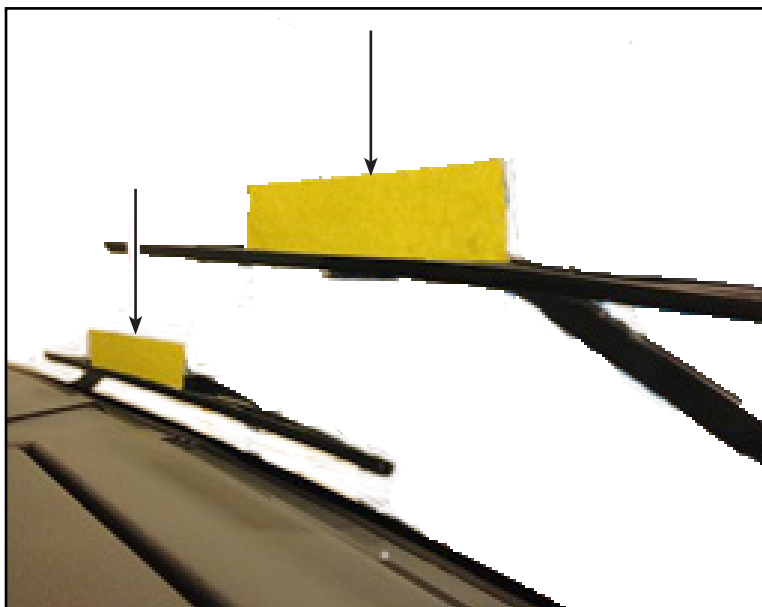

Figure 3 - Put Two Pieces of Tape Inside the Vehicle
- 1.5. Install tape on the inside face of the windshield to mark the wiper blade positions. See Figure 3.
- 1.24. Validate that the wiper blades lines up with the tape put inside the windshield, as seen in Figure 3, step 1.5. The blades should not have a negative angle.
- 1.34. Validate that the wiper blades lines up with the tape put inside the windshield, as seen in Figure 3, step 1.5.